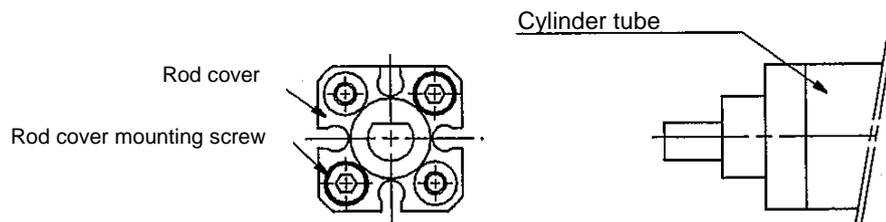

Fig. 5  $\phi 12$
#### [ Changing method of the $\phi 12$ bore piston rod direction ](Fig.5)
- ① When cylinder fails to function due to air leakage or breakage of the shock absorber, replace the seal kit and the shock absorber. Refer to the tables below, and Component Parts table, for orderable part numbers.
- ②  $\phi 12$  bore seal kit replacement: Remove two rod cover mounting screws shown in Figure 5. Pull piston rod assembly and rod cover assembly out of cylinder tube. After replacing seals, insert piston rod assembly and rod cover assembly in to cylinder tube. Apply glue for screw to rod cover mounting screws and reinsert in to cylinder assembly.